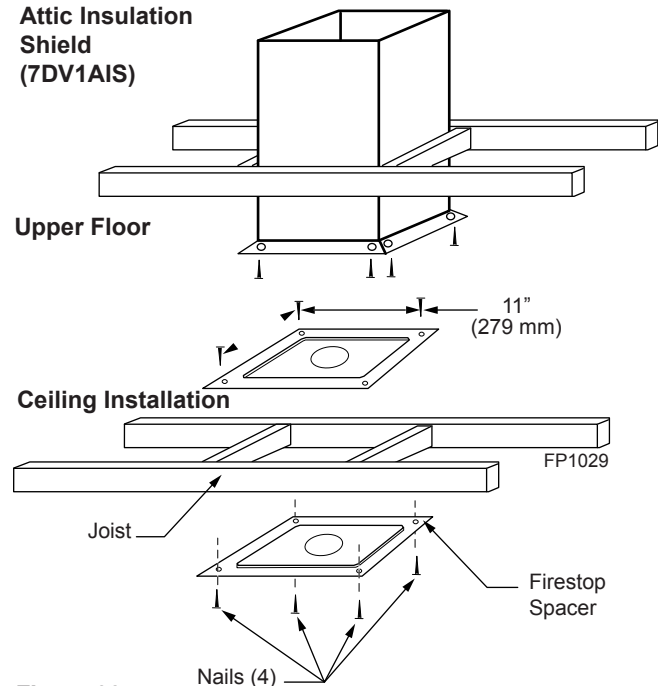

Figure 38 - Place Firestop Spacer(s) and Secure
6. Place firestop(s) or Attic Insulation Shield into position and secure. *Figure 38*